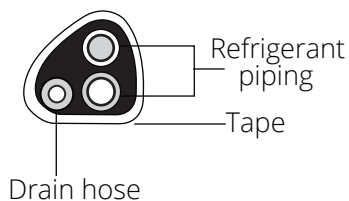

Fig. 5.7
3. Now, you will need to lightly tape the refrigerant piping and drain pipe together in a bundle, using electrical tape, making sure that the drain pipe is at the bottom. **DO NOT** tape the ends of the piping (connectors). Refer to Fig 5.7 and the image below for the correct orientation of the piping when taping.